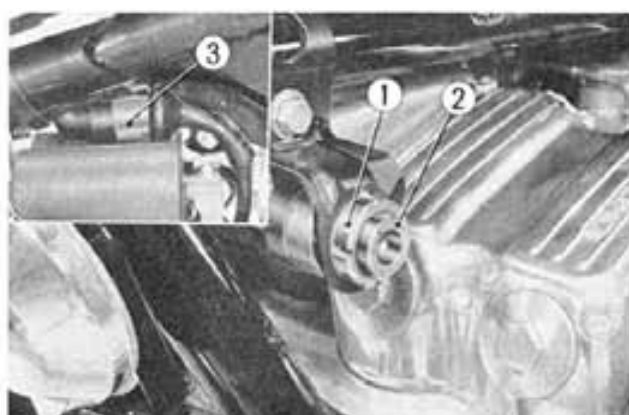

Fig. 16-14 ① Lock nut
2. Unscrew the main ignition key switch lock nut. (Fig. 16-14)
3. Disconnect the switch connector and remove the switch. (Fig. 16-14)